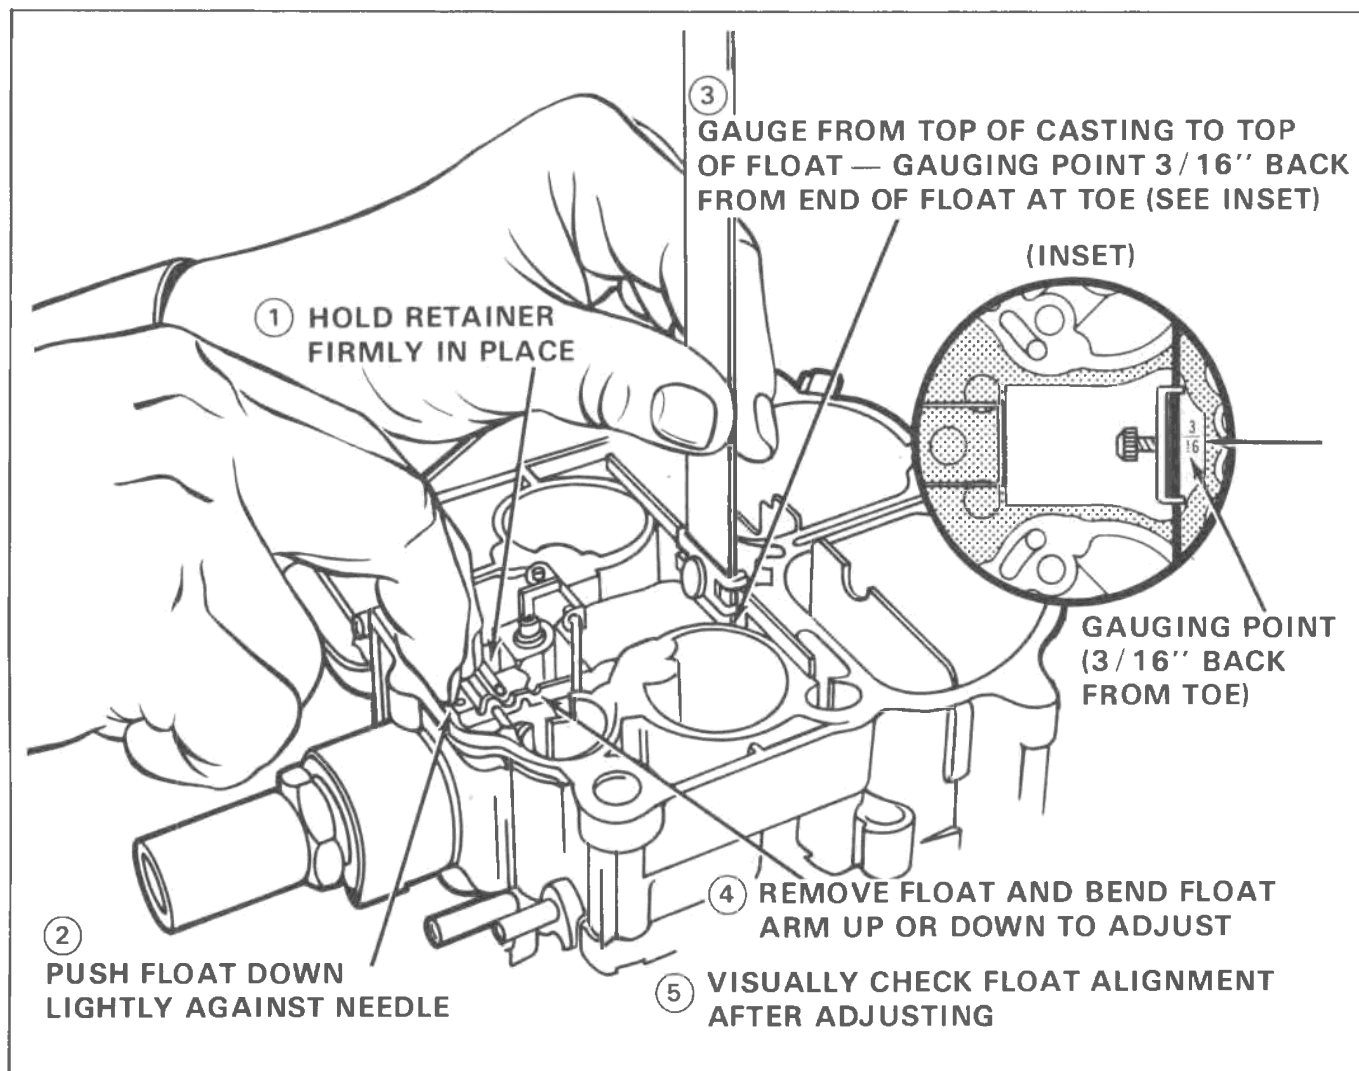

Fig. 6C-56-Float Level Adjustment
12. Install power piston spring in power piston well. If main metering rods were removed from hanger, reinstall making sure tension spring is connected to top of each rod (Fig. 6C-43). Install power piston assembly in well (aligning pin on piston with slot in well) with metering rods properly positioned in metering jets. Press down firmly on plastic power piston retainer to make sure the retainer is seated in recess in bowl and the top is flush with the top of the bowl casting. If necessary, using a drift punch and small hammer, tap retainer lightly in place.